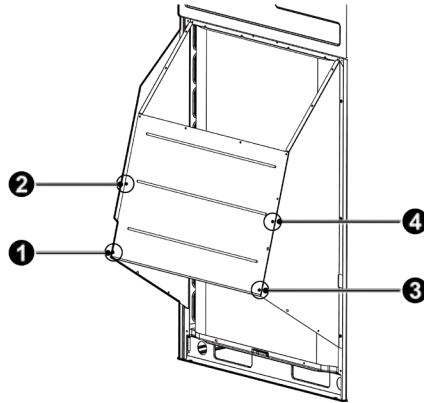

Fig. 3.18
Step 2: installation of Rear Plate 2. Please refer to Fig 3.18 for the installation location and sequence of screws.